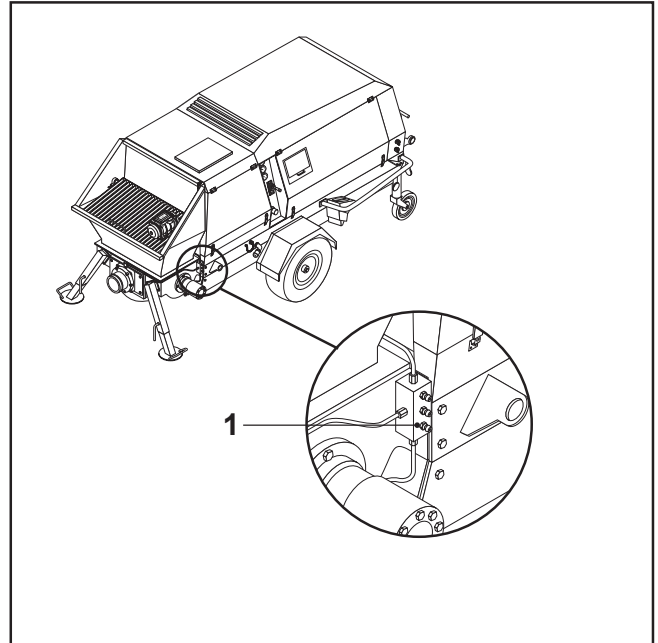

FIG.46
- Using the grease pump supplied, lubricate the three greasing points (FIG. 46-REF. 1) on the mixer support and the S-valve mount.